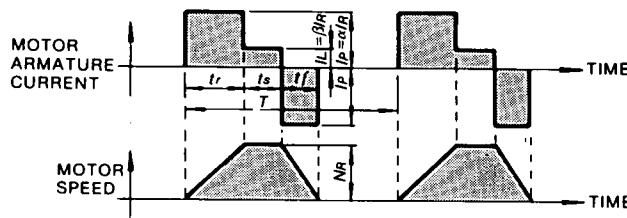

Fig. 4.3 Timing Chart of
- When the motor repeats rated-speed operation and being at standstill (Fig. 4.3).